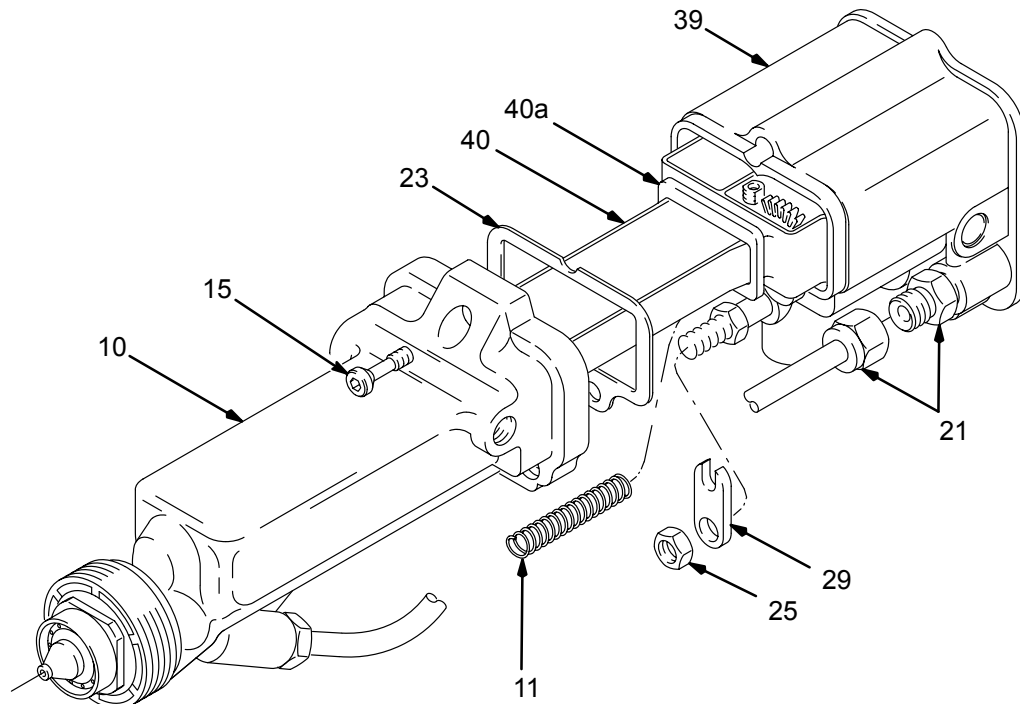

Fig 20
3. Using the ball end wrench (46), supplied, loosen the three socket head cap screws (15). See Fig 20 .
1. Be sure the gaskets (23 & 40a) and spring (11) are in place. See Fig 20 . Replace if damaged.
2. Place the barrel (10) over the power supply (40) and onto the gun body (39). Make sure the fluid rod spring (11) is seated properly.
3. Tighten the three socket head cap screws (15) oppositely and evenly with the ball end wrench (46). Tighten the cap screws to 18 in-lbs (2 N •m) *MAXIMUM* (about a half turn past snug). *DO NOT* over tighten.
1. Remove the jam nut (25) and arm (29). See Fig 20.
8. Install the arm (29) and jam nut (25), with the jam nut assembled flush to the end of the rod. See Fig 20 , page 22.